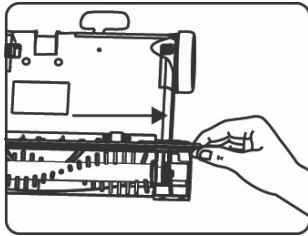

Fig. 15
11. To replace the squeegee, follow instructions above for removing the gear box and slide the squeegee out from left to right. (Fig. 15)